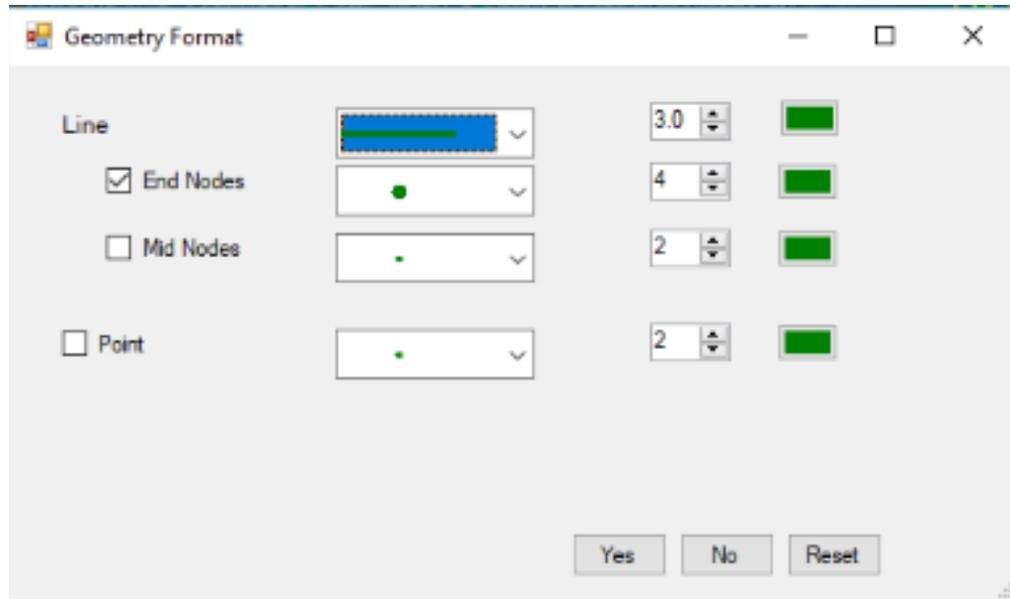

Figure 3-14. Geometry format.
1. Click the set-display button . A form will appear (Figure 3-14).